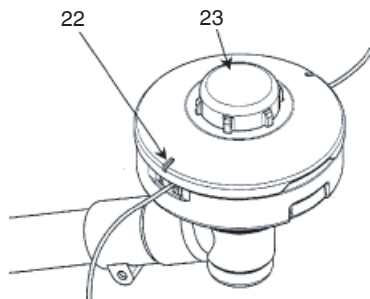

Fig. 10
If the wear limit mark (22) on the case is no longer visible or there is a hole in the bottom (23) of the button, change the new parts immediately. (Fig. 10)